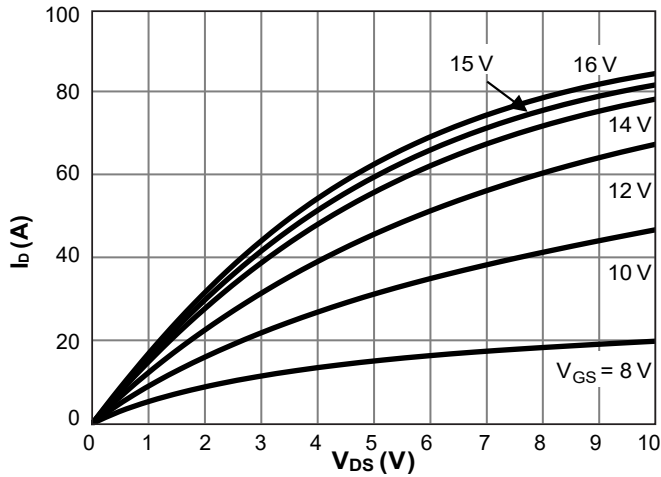

Figure 1. On-Region Characteristics  $T_J = 25^\circ\text{C}$
- The static characteristics in Figures 1 to 8 are obtained using < 300 μs pulses, duty cycle 0.5% max.